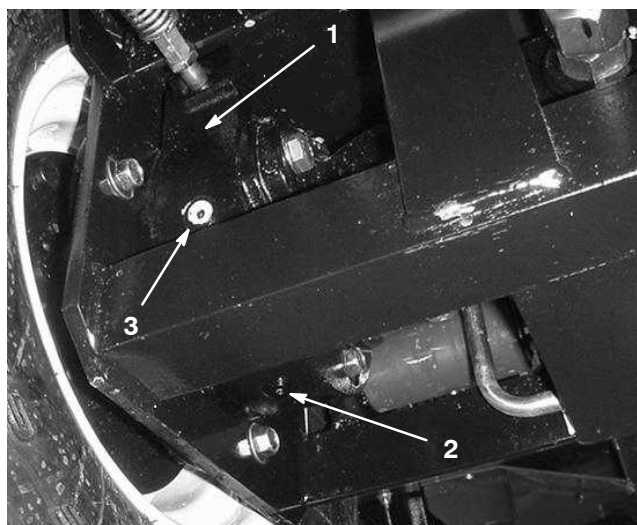

Figure 70
4. Place a drain pan under the brake housing on the other side of the wheel (Fig. 70).